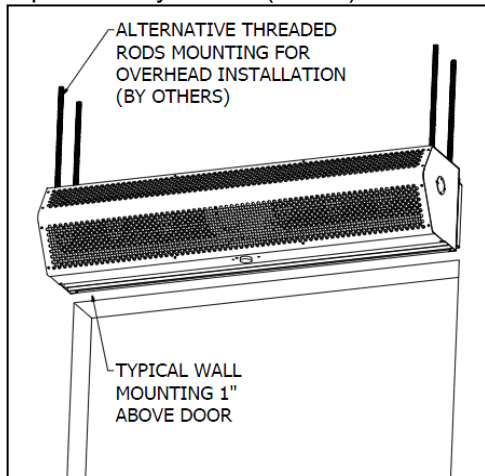

FIG. 3
5. Mount the product such that the discharge is 1" above the opening and all obstacles. (FIG. 3)
6. Use four (4) threaded rods for overhead installation or four (4) threaded bolts for wall installation. All hardware is field provided by others. (FIG. 3)